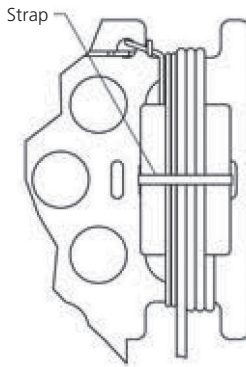

Figure 4-11. Strap the brick and cord in place using a zip tie or hook-and-loop tie (not included).
**Step 5.** Wrap the remaining length of power cord around the power brick (see Figure 4-11, page 13).